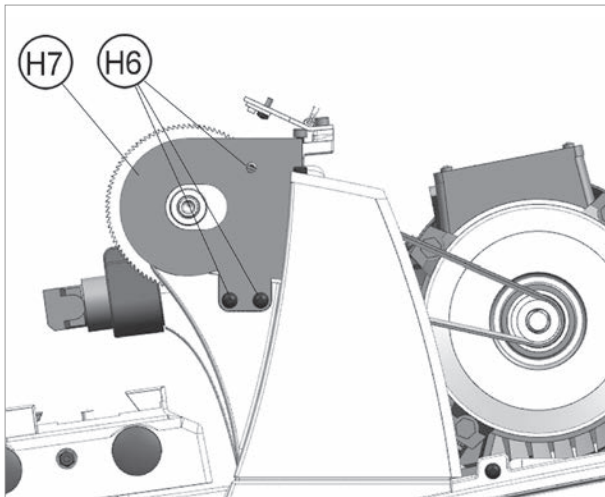

Fig.84
- 8) Loosen the 3 screws (H6) and remove the belt protection (H7) (Fig.84).